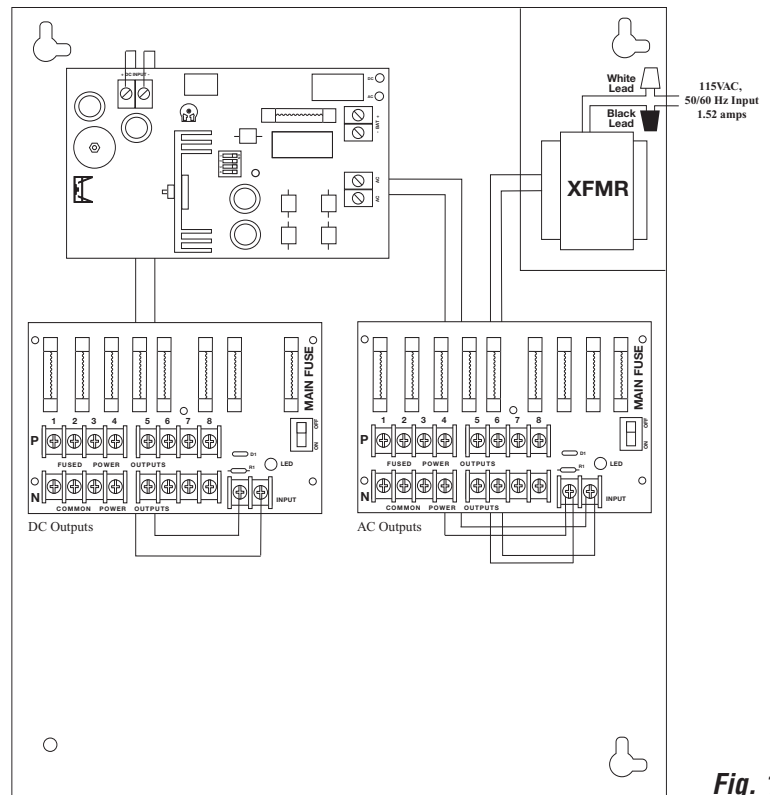

Fig. 1
- 3.5 amp supply current at 12VDC (Fig. 1).
- Eight (8) outputs @ 12VDC.
- 3.5 amp supply current at 24VAC (Fig. 1).
- Eight (8) outputs @ 24VAC.
- Main fuses are rated at 5 amp / 250VAC (Fig. 1).
2. Slide switch SW1 (Fig. 1) to OFF position.
3. Connect the AC (115 VAC 50/60 Hz) to the two black and white flying leads of the transformers (Fig 1).
5. Connect devices to output terminals using the following procedure (Fig. 1).
6. When batteries are being used the DC output voltage must be adjusted by turning the trim pot VR1 (Fig 1) clockwise to increase the output voltage to 13.7 VDC. Connect battery to terminals marked [- BAT +] (Fig. 1) on the unit (battery leads included).
7. Slide switch SW1 (Fig. 1) to ON position.